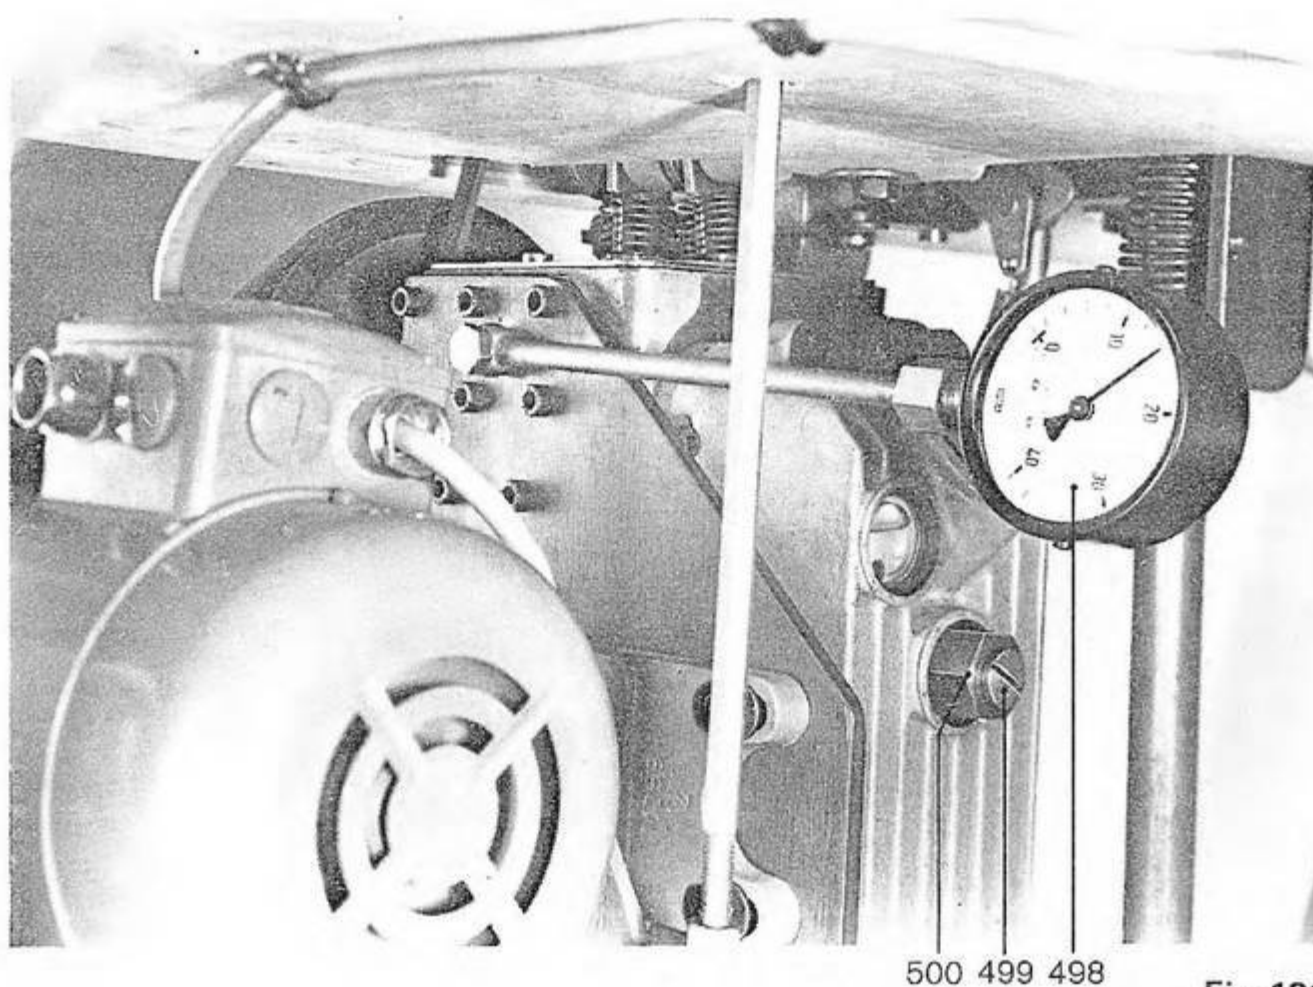

Fig. 131
3. Screw then into this free hole, as shown in fig. 131, the manometer 498 with gasket. Manometer ref. No. 5562301.